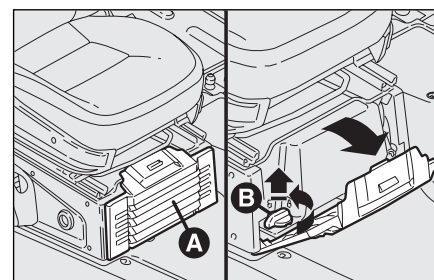

fig. 79
- ☐ Open lid **A** and remove it as shown in fig. 79: